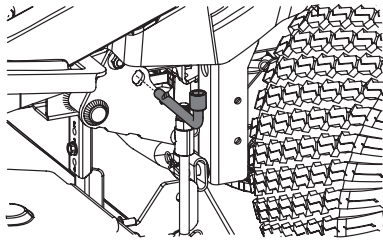

Figure 48
5. Use the deck lift pedal and deck lift knob to place the deck in the lowest position and use the multi-tool to lock the deck lift components in place. There are a pair of alignment holes by the rear wheel on the left side of the tractor (one on the frame and one on the deck lift arm) as shown in Figure 48. Ensure tool is fully inserted properly, locking the deck lift arm in place to the frame.